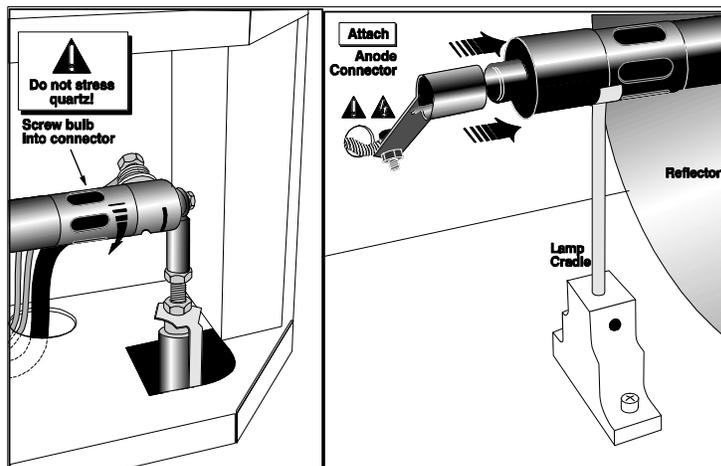

Figure 4-1 Install Bulb
- With protective clothing and shield on, insert the threaded cathode (–) end of the lamp into the negative lamp connector nut located in the rear of the lamp compartment and screw in fully (**Figure 4-1**, left). Hand-tighten only. **Important!** *Handle by the cathode/anode end shafts only, never the glass. Do not over-tighten. Do not stress the glass.*
- Rest the anode (+) end of the lamp on the lamp cradle as shown in **Figure 4-1**, right, and slip the positive lamp connector over the bulb end.